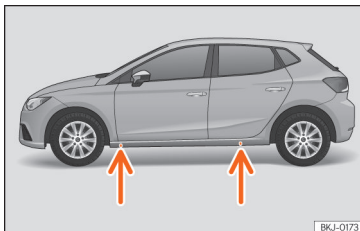

Fig. 190 Jack position points.
- Look on the strut for the mark of the jack support point (sunken area) closest to the wheel to be changed >>> Fig. 190.